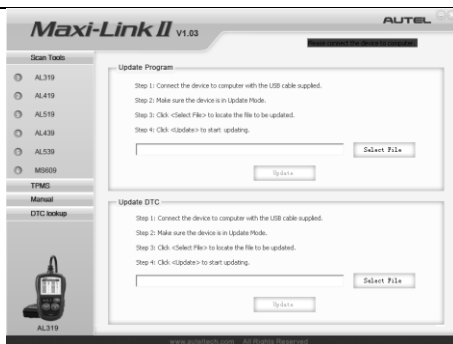

Figure 3.11
- 2) Run the MaxiLink II Tool Kit in your computer. (Figure 3.11)
- 5) Select the programs to be updated in your computer. There are two types of programs: operating system and DTC library (Figure 3.11).